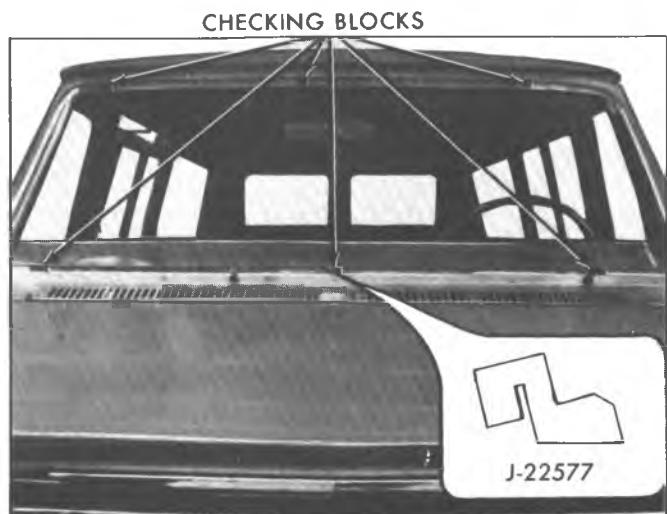

Fig. 8G—Checking Windshield Opening
4. Check windshield glass to opening, by supporting glass with six spacers contained in packet J-22577, as shown in figure 8G.
- NOTE: It is necessary to modify the spacers by cutting off  $3/16''$  from the back of the spacer with a knife, as shown in figure 8G.